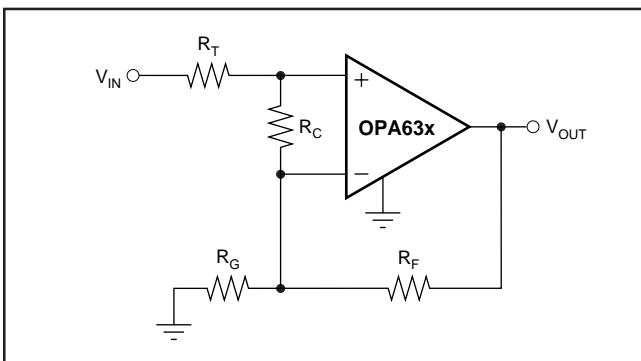

FIGURE 4. Compensated Non-Inverting Amplifier.
Figure 4 shows a non-inverting amplifier that reduces peaking at low gains. The resistor R_C compensates the OPA634 or OPA635 to have higher Noise Gain (NG), which reduces the AC response peaking (typically 5dB at $G = +1$ without R_C) without changing the DC gain. V_{IN} needs to be a low impedance source, such as an op amp. The resistor values are low to reduce noise. Using both R_T and R_F helps minimize the impact of parasitic impedances.
Since the OPA634 and OPA635 are voltage feedback op amps, a wide range of resistor values may be used for the feedback and gain setting resistors. The primary limits on these values are set by dynamic range (noise and distortion) and parasitic capacitance considerations. For a non-inverting unity gain follower application, the feedback connection should be made with a 25Ω resistor, not a direct short (see Figure 4). This will isolate the inverting input capacitance from the output pin and improve the frequency response flatness. Usually, for $G > 1$ application, the feedback resistor value should be between 200Ω and $1.5k\Omega$. Below 200Ω , the feedback network will present additional output loading which can degrade the harmonic distortion performance. Above $1.5k\Omega$, the typical parasitic capacitance (approximately $0.2pF$) across the feedback resistor may cause unintentional band-limiting in the amplifier response.
The criterion for setting this R_S resistor is a maximum bandwidth, flat frequency response at the load. For a gain of +2, the frequency response at the output pin is already slightly peaked without the capacitive load, requiring relatively high values of R_S to flatten the response at the load. Increasing the noise gain will also reduce the peaking (see Figure 4).
c) Careful selection and placement of external components will preserve the high frequency performance. Resistors should be a very low reactance type. Surface-mount resistors work best and allow a tighter overall layout. Metal film or carbon composition axially-leaded resistors can also provide good high frequency performance. Again, keep their leads and PC board traces as short as possible. Never use wirewound type resistors in a high frequency application. Since the output pin and inverting input pin are the most sensitive to parasitic capacitance, always position the feedback and series output resistor, if any, as close as possible to the output pin. Other network components, such as non-inverting input termination resistors, should also be placed close to the package. Where double-side component mounting is allowed, place the feedback resistor directly under the package on the other side of the board between the output and inverting input pins. Even with a low parasitic capacitance shunting the external resistors, excessively high resistor values can create significant time constants that can degrade performance. Good axial metal film or surface-mount resistors have approximately 0.2pF in shunt with the resistor. For resistor values $>1.5\text{k}\Omega$, this parasitic capacitance can add a pole and/or zero below 500MHz that can effect circuit operation. Keep resistor values as low as possible consistent with load driving considerations. The 750Ω feedback used in the typical performance specifications is a good starting point for design. See Figure 4 for the unity gain follower application.